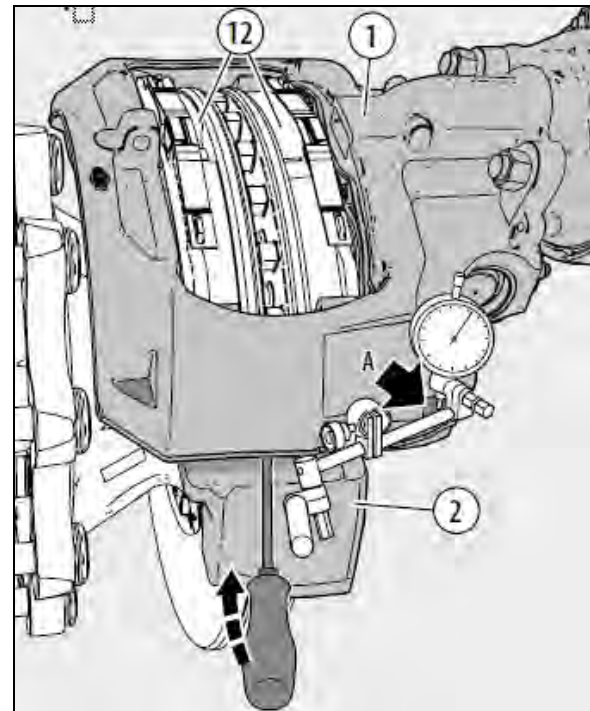

FIGURE 51: OBTAINING MAXIMUM VALUE OF BEARING CLEARANCE
3. Fasten a magnetic dial-gage holder to the carrier (2) on the floating bearing side of the caliper (1). Use the casting tag on the caliper (1) as the measuring point - see arrows A (see Figure 51).
5. Place a suitable tool (e.g. screwdriver with at least 200 mm in length) in a central position between carrier (2) and caliper (1) and lever them in opposite directions (using normal hand-force).